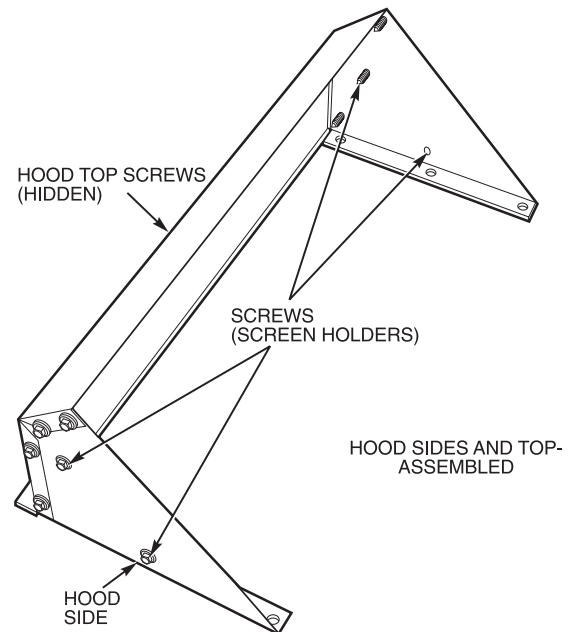
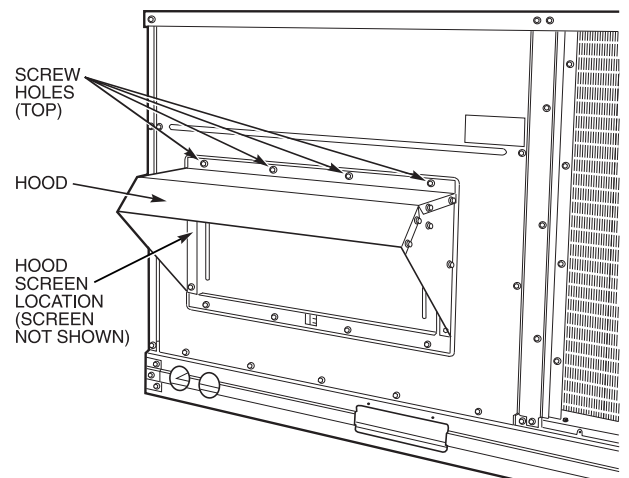

Fig. 14 — Outdoor-Air Hood Details
Fig. 15 — Damper with Hood Attached
5. Place hood on front of evaporator coil access panel. See Fig. 14 for hood details. Secure top of hood with the screws removed in Step 3. See Fig. 15.
7. Align screw holes on hood with screw holes on side of manual outdoor-air damper. See Fig. 14 and 15. Secure hood with 6 side screws from Step 6.
9. Remove and save screws currently on sides of hood. Insert screens. Secure screens to hood using the screws. See Fig. 15.